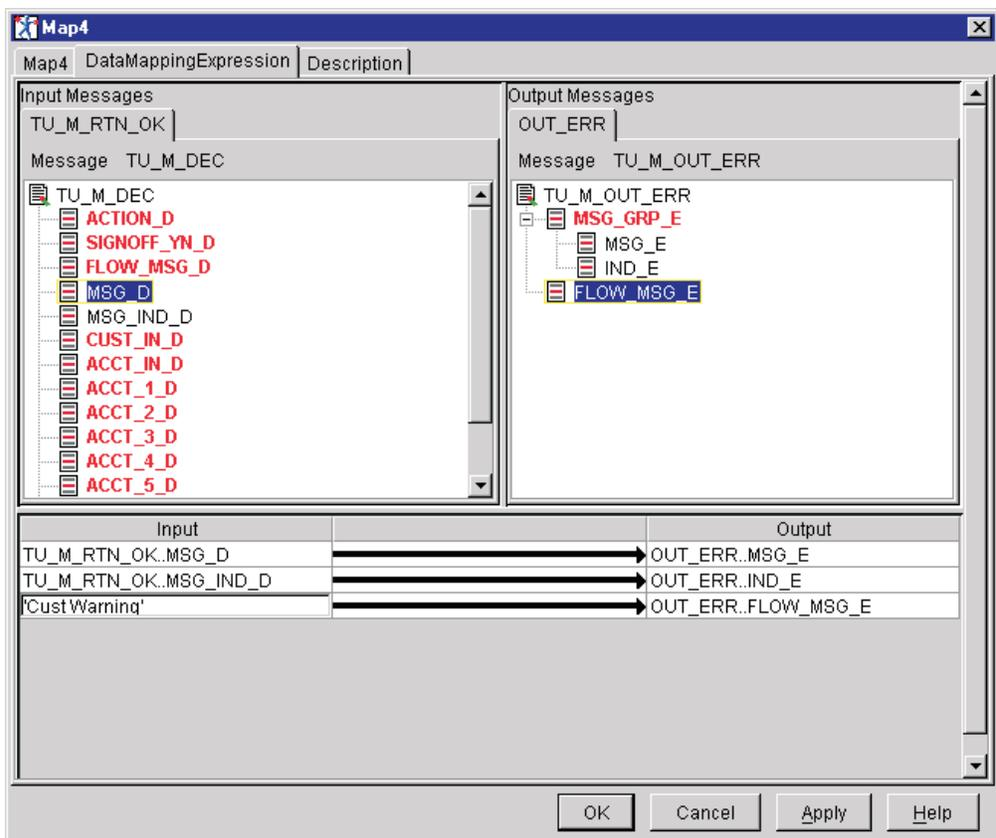

Figure 71. Mapping for Map4 node
- 4) Perform the mapping for Map4 node as listed in Table 35 and shown in Figure 71 on page 102. This map passes warning response messages to the MQ Error response Output Terminal (OUT\_ERR).